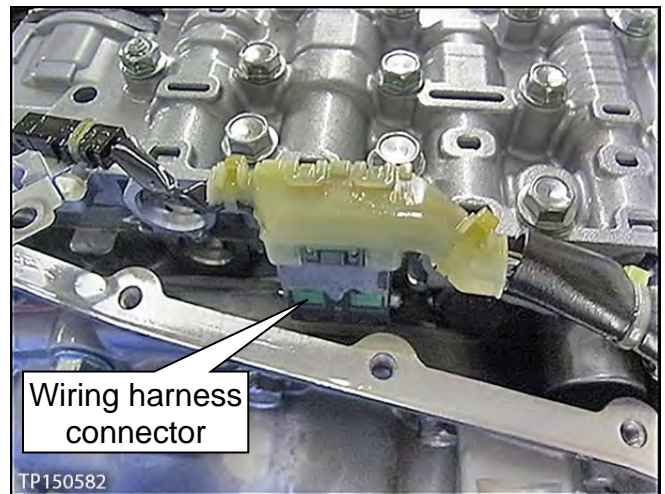

Figure 84
4. Connect the wiring harness connector (see Figure 84).